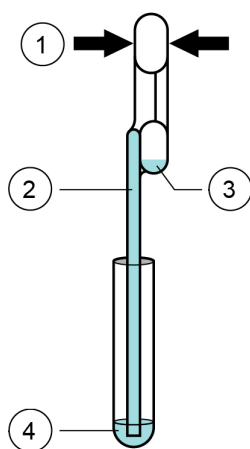

Figure 19. Cartridge Preparation Screen
8. The Cartridge Preparation screen appears (see Figure 19).